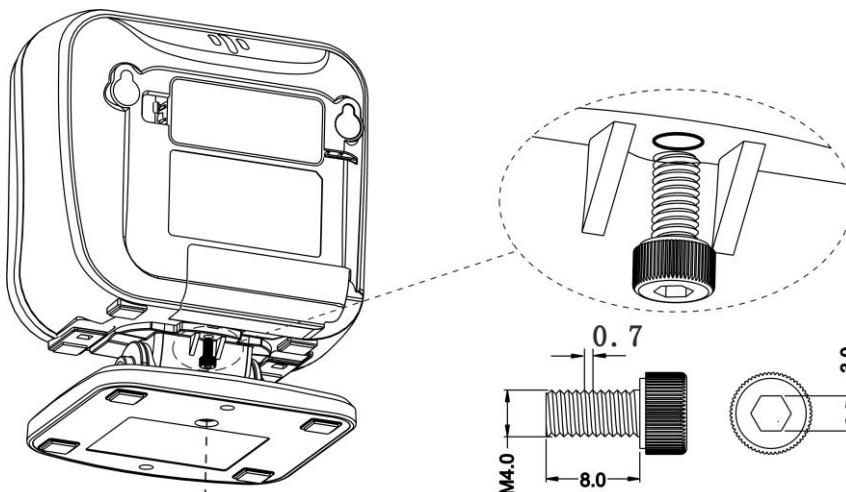

Figure 10-2
2. As shown in Figure 10-2, well connect the image platform with the stand by tightening the single screw.